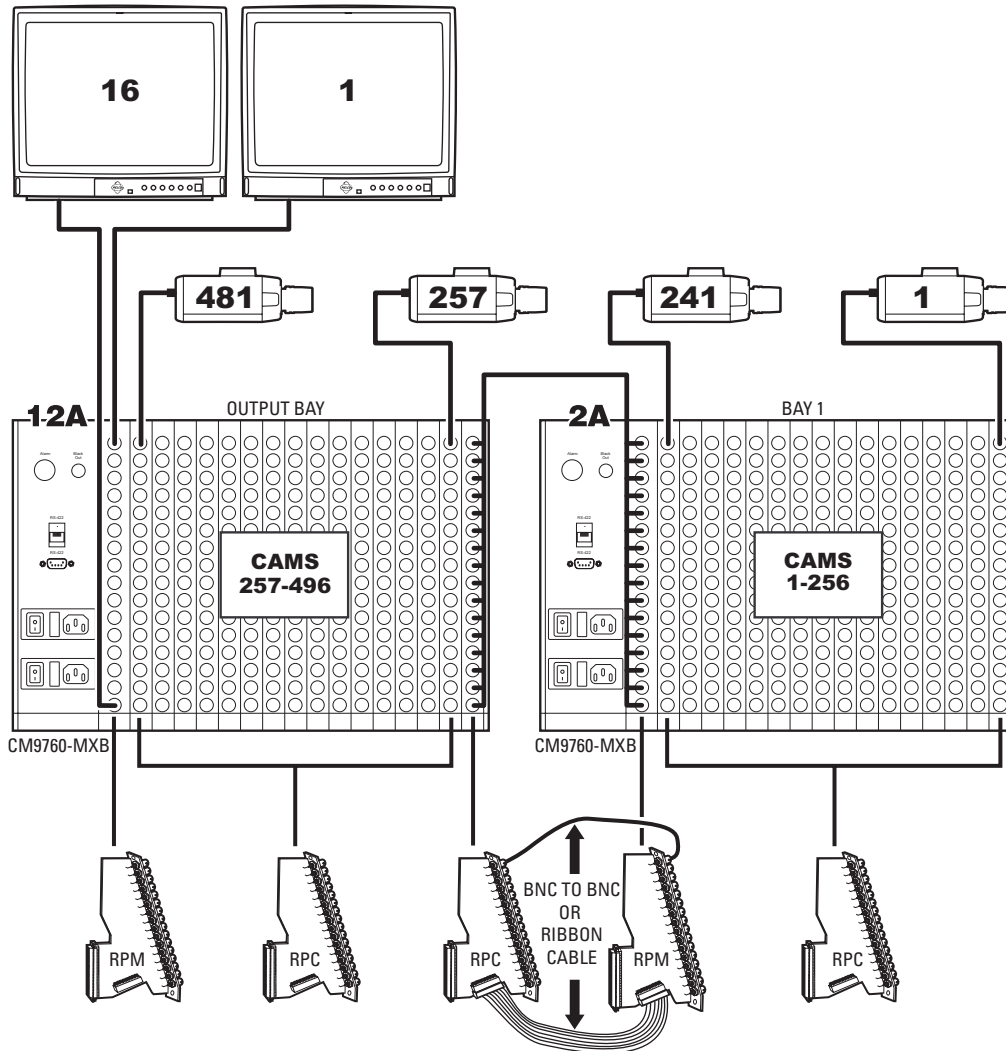

Figure 56. CM9760-MXB Sideframing Example: 496 Video Inputs and 16 Video Outputs (496 x 16)
As viewed from the rear of the matrix bays, Figure 56 illustrates one bay sideframed to an output bay for a total of up to 496 video inputs and 16 video outputs.
- In an initial system installation, multiple matrix bays are labeled to identify the location of the sideframed bays in the installation, for example, 2A, 12A, 22A, and so on. Figure 56 illustrates a two-bay configuration in which bay 12A (output bay) is sideframed to bay 2A (bay 1). For additional examples of sideframe configurations, refer to *Appendix B*.
- Video outputs of a bay connect to the video inputs in the output bay by means of BNC coaxial cables. Each coaxial cable connection from one bay sideframed to the output bay is referred to as a tie line. Alternatively, as shown in Figure 56, a coaxial ribbon cable can be used in a two-bay sideframed configuration to connect the 16-pin connector on the bottom of the CM9760-RPM card to the 16-pin connector on the bottom of the CM9760-RPC card.